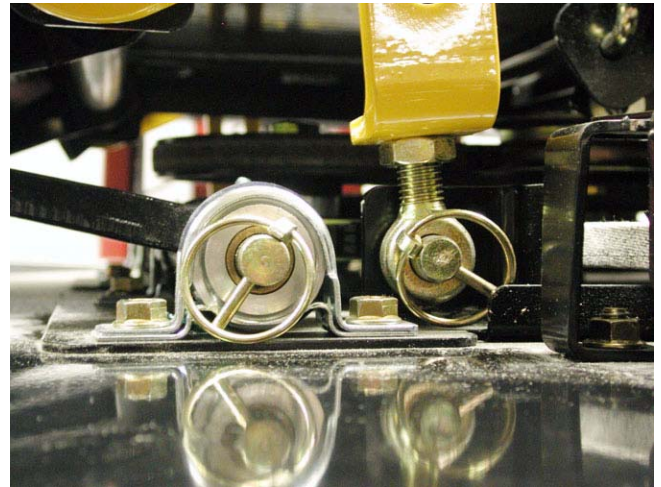

Figure 8.5
- 8.5. Heavier hardware connects the deck to the hangers. See Figure 8.5.